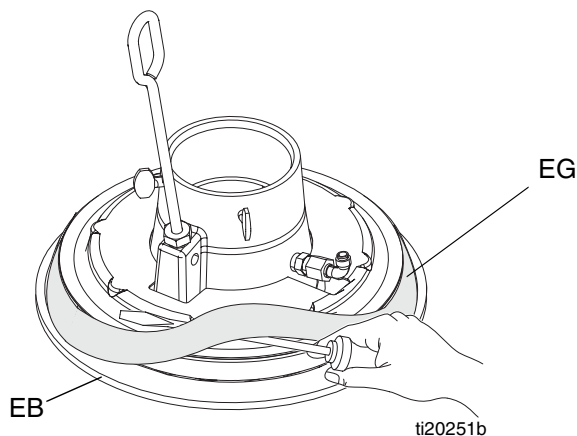

FIG. 12: Sliding spacer
2. By hand, angle spacer (EG) and work it off the plate, pulling it down over the flange. See FIG. 12.
3. Save spacer (EG), as it is required for other applications.
1. Ensure large diameter of spacer (EG) is facing **down**. Work spacer (EG) up over the platen by hand completely above the flange of the platen. See FIG. 12.